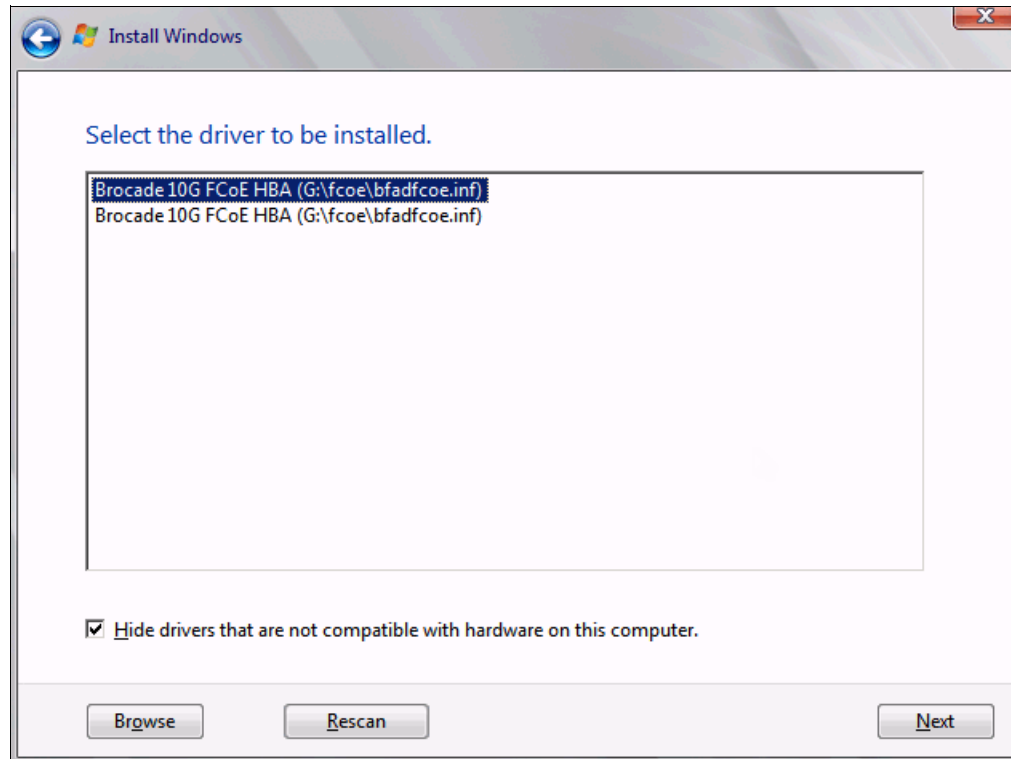

Figure 9-197 Loading the Brocade FCoE driver
14. In the “Select the driver to be installed” panel (Figure 9-197), select the driver, and click **Next**.